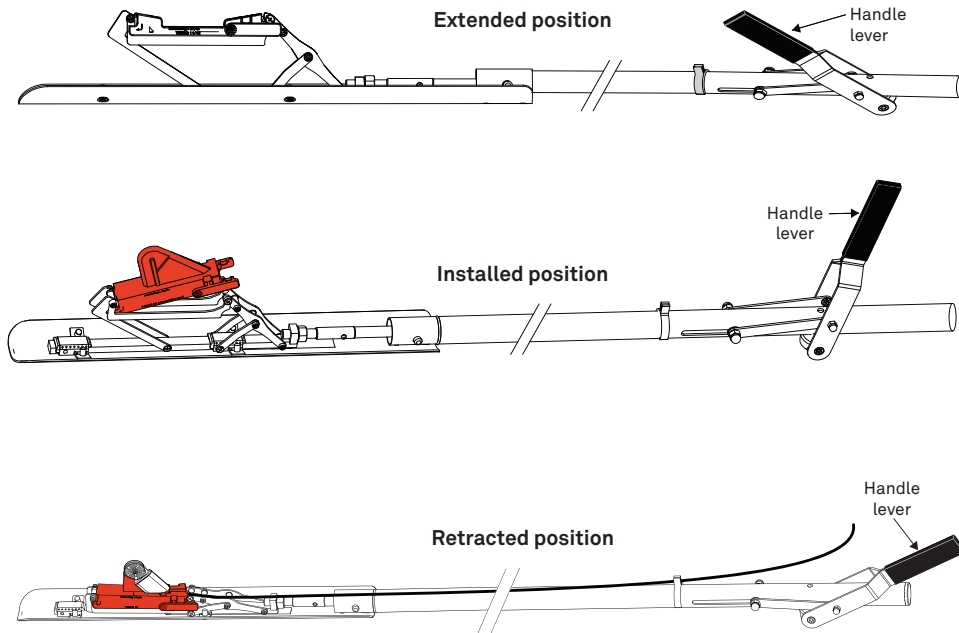
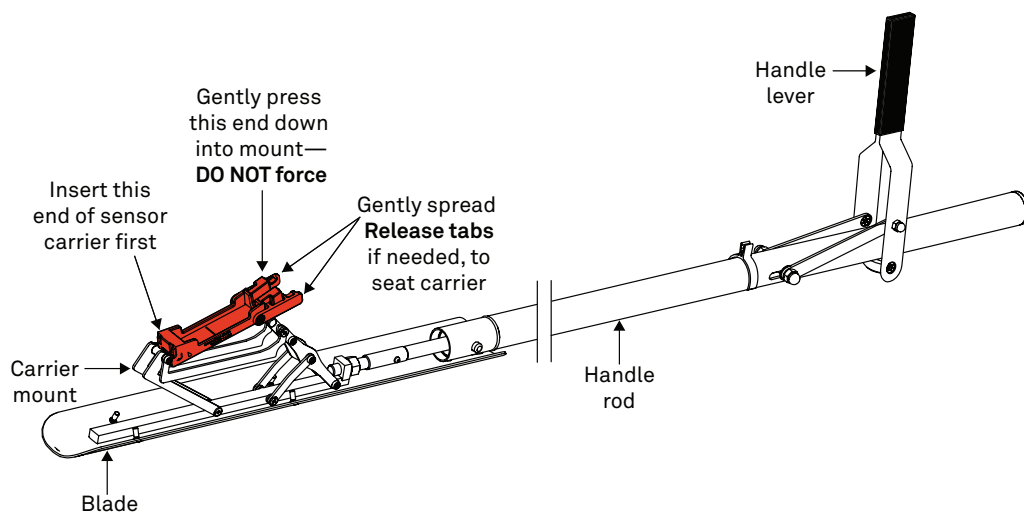

Figure 10 Handle lever positions
Figure 12 Insert sensor carrier
Always install the deepest sensor first. The preparation tool, sensor carrier and sensor should only be inserted while the carrier mount is extended as shown in Figure 12. Figure 10 shows the three different handle lever positions referenced in the following instructions.
3. Slide the carrier end that the **Arrow** points to into the carrier mount (Figure 12).